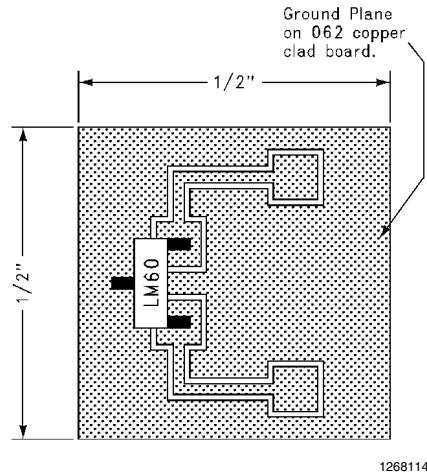

FIGURE 2. Printed Circuit Board Used for Heat Sink to Generate All Curves.
To generate these curves the LM60 was mounted to a printed circuit board as shown in Figure 2.
**-Heat sink used is 1/2" square printed circuit board with 2 oz. foil with part attached as shown in Figure 2.